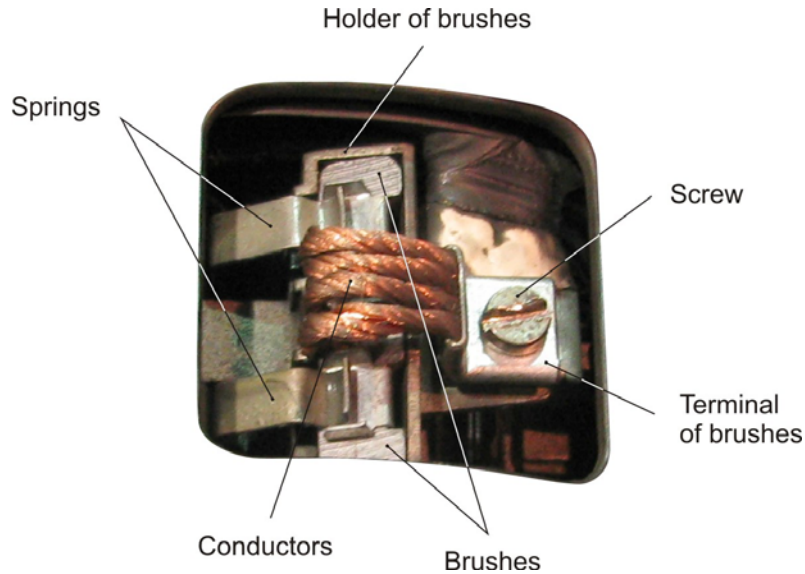

Fig. 1 Correct position of brushes in a holder
- Remove the RH cockpit ceiling panel – see MM, chap. 025.23.00, Fig. 1, pos. 19.
- Remove the RH cover panel – see the MM, chap. 025.23.00, Fig. 1, pos. 13.
- Remove a jumper between the D32 and D33 circuit breakers (on the overhead panel – see the WM, chap. 030.30.00, Fig. 1).
- Check after installation of the starter/generator brushes (after the check for brush wear according to the MM of GE M601E/E-21 engine, chap. 80.11.00, page 501 or MM of GE H80-200 engine, chap. 80.10.01, page 203) – see Fig. 1:
- Install the RH cover panel – see the MM, chap. 025.23.00, Fig. 1, pos. 13.
- Install the RH cockpit ceiling panel – see MM, chap. 025.23.00, Fig. 1, pos. 19.